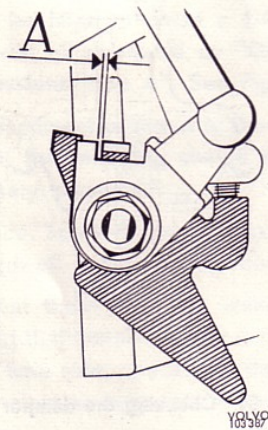

Fig. 96 Setting the control
5. Adjust the link rod. With the control against its stop on the manifold bracket, the link rod should be adjusted so that there is a clearance of about 0.1 mm (0.004") between the lever and the flange of the primary throttle spindle. See Fig. 96.
- Adjust the link rods. With the control against its stop on the manifold bracket, the link rods should be adjusted so that there is a clearance of about 0.1 mm (0.004") between the lever and the primary throttle spindle flange. See Fig. 96.
5. Adjust the link rods. With the control against its stop on the manifold bracket, the link rods should be adjusted so that there is a clearance of about 0.1 mm (0.004") between the lever and the flange of the primary throttle spindle. See Fig. 96.